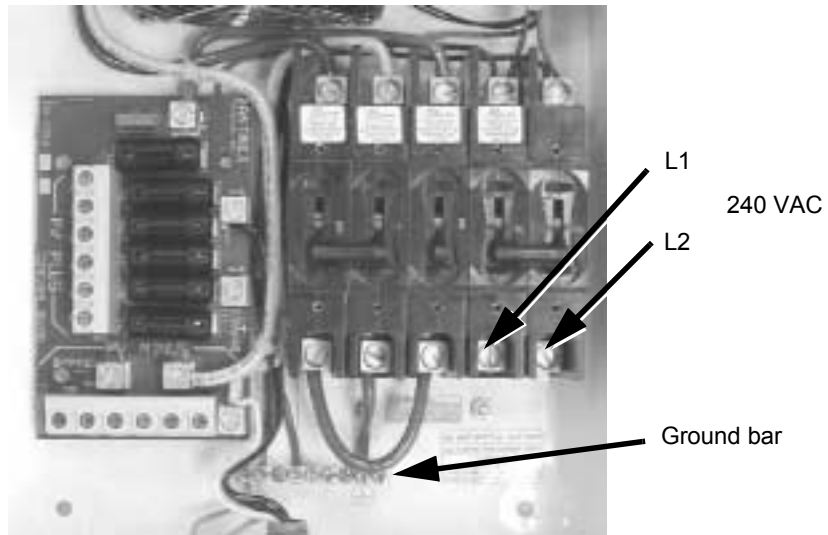

Figure 2-11 240 VAC connection points
3. Connect the L1 HOT wire (black) from the 15-amp, double-pole breaker installed in the main breaker panel, to the breaker labeled L1 in the Sun Tie XR. Refer to Figure 2-11.